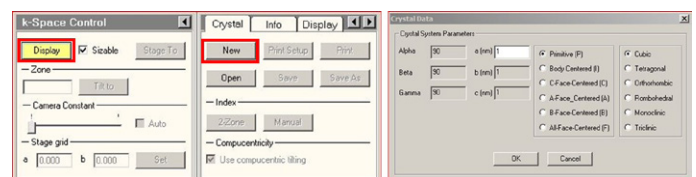

Figure 5. Diagrams showing K-space control functionality.
4. Click **Display** in the K-space control window in the CrystalPack panel (Figure 5). A floating window of the K-space of a simple cubic lattice appears with a simulated diffraction pattern, including Kikuchi line. When closing the **K-space control** floating window, DO NOT use the **cross** of the window, but instead click **Display** in the control panel again.
5. Go to the **Crystal** flap-out and click **New** and then input the crystallography information into the system (Figure 5). The floating window of K-space will simultaneously be updated with the new crystal. For visualization of K-space, the **Display** page offers several options for displaying Kikuchi patterns, diffractions, spots, etc. The display option is up to your preference.
6. Ensure the **Compucentricity** option (Figure 5) is selected during the entire procedure.